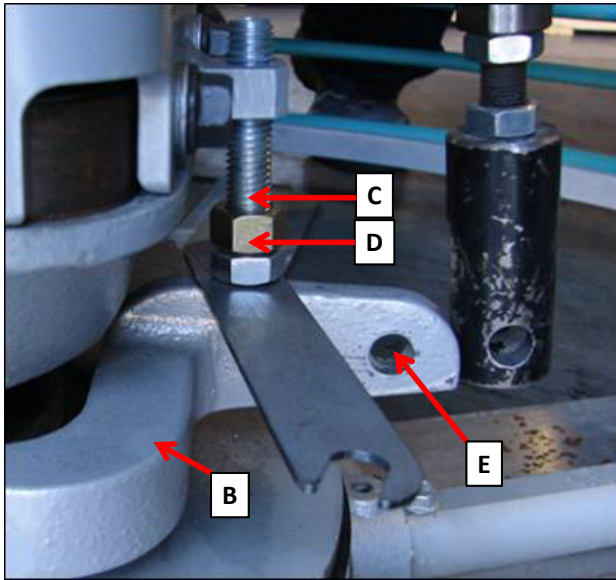

Figure 40. Zero Pitch Adjustment
3. Remove clevis pin (Item E, Figure 40) from pitch cylinder allowing yoke (Item B, Figure 40) to rest on thrust collar.
4. Loosen jam nut (Item C, Figure 40) with $\frac{3}{4}$ " wrench.
5. Set distance between head of stop (Item D, Figure 40) and yoke (Item B, Figure 40) to .075" (14 gauge steel, Gauge #32020).
6. Loctite and tighten jam nut (Item C, Figure 40).
7. Reinstall clevis pin (Item E, Figure 40) between pitch cylinder and yoke.